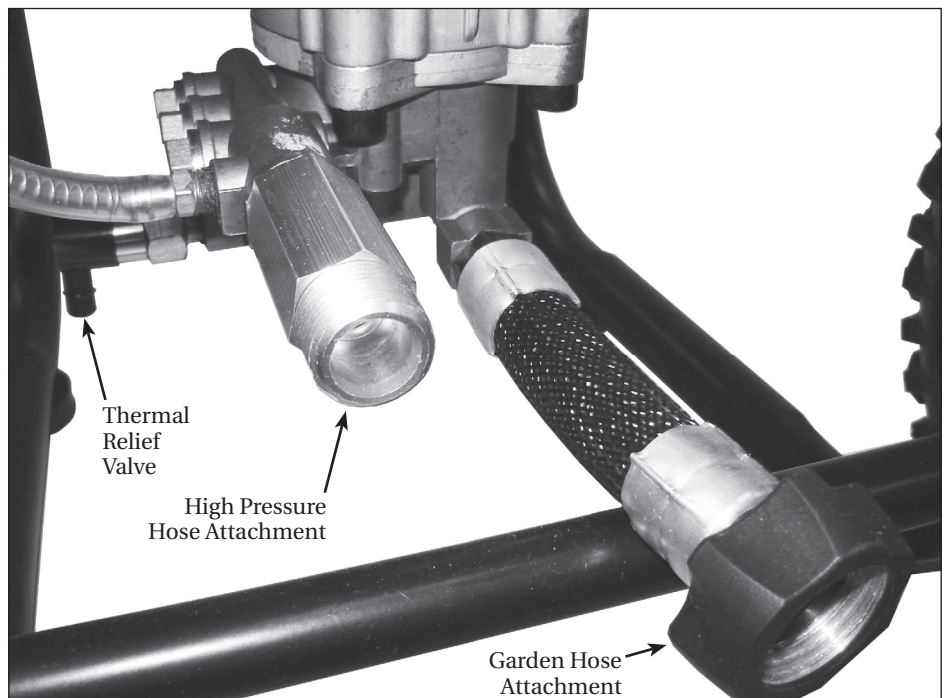

Figure 9 - Pump hook up
2. Secure garden hose (not included) to the garden hose attachment on pump (see Figure 9).
3. Connect the high pressure hose to the pump outlet (see Figures 9 and 10).